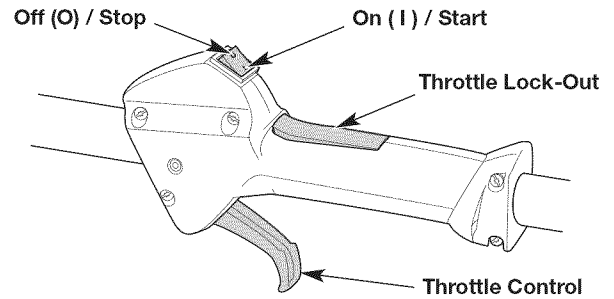
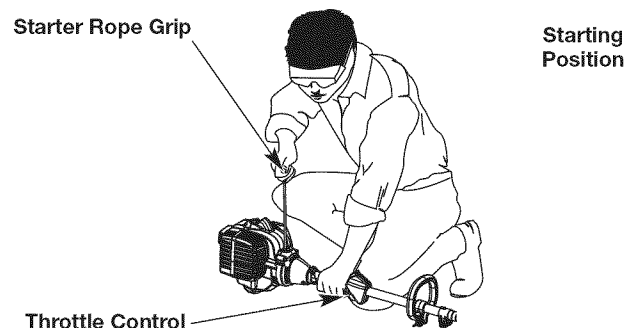

Fig. 9
Fig. 12
WARNING: Avoid accidentally starting the unit. To avoid serious injury, the operator and the unit must be in a stable position when pulling the starter rope (Fig. 12).
NOTE: There is no need to turn the unit on. The On/Off switch is in the ON (I) position at all times (Fig. 9).
5. Crouch in the starting position (Fig. 12).
6. **DO NOT** squeeze the throttle control (Fig. 9). Pull the starter rope with a controlled and steady motion until the unit starts (Fig. 12).
2. Press and hold the On/Off switch in the OFF (O) position until the engine comes to a complete stop (Fig. 9).
6. **DO NOT** squeeze the throttle control (Fig. 9). Insert the Speed Start™ accessory into the Speed Start™ port (Fig. 22). Refer to the *Operation* section of the Speed Start™ accessory operator's manual.